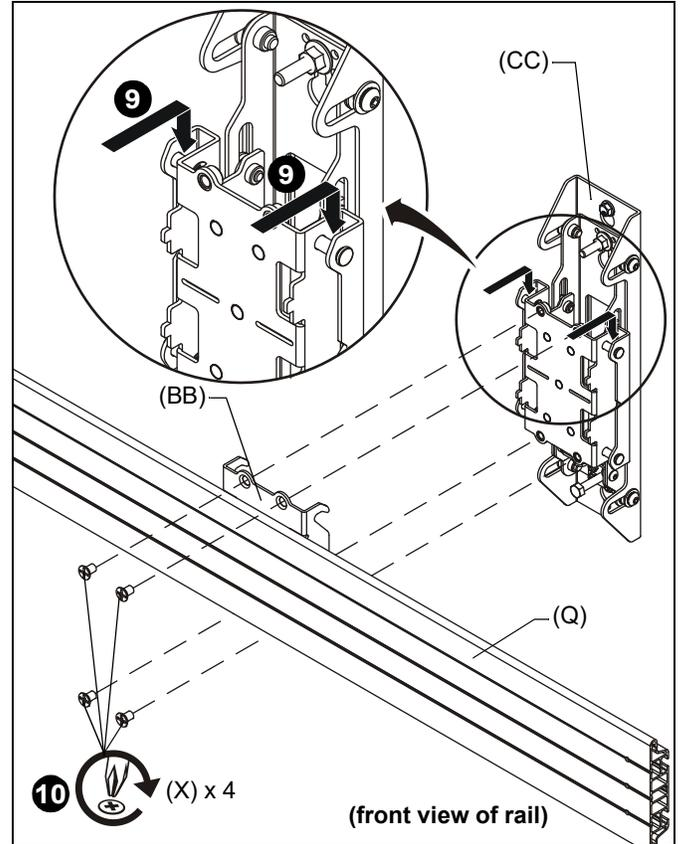

Figure 22
- Hook height adjust plates (BB) over wall uprights (CC or DD). (See Figure 22)
- Fasten mounting rail (Q) to wall uprights using four 5/16 x 1/2" Phillips flat head screws (X) through height adjust plate (BB) and into wall uprights (CC or DD) and tighten all screws. (See Figure 22)